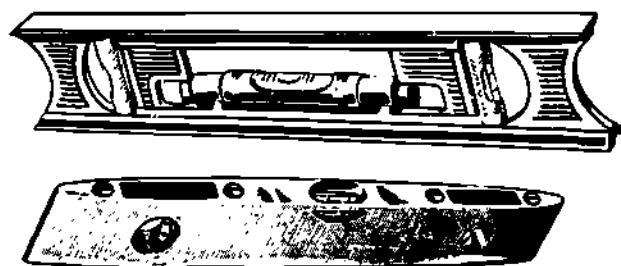

Figure 1-129. Levels
g) Keep a level at hand to ensure that pipes are plumb, level, or have the proper grade. Two types are shown in Figure 1-129 but there are many others ranging in size from a few centimetres to several metres. They are generally made of die-cast aluminum, but may also be available in other materials.